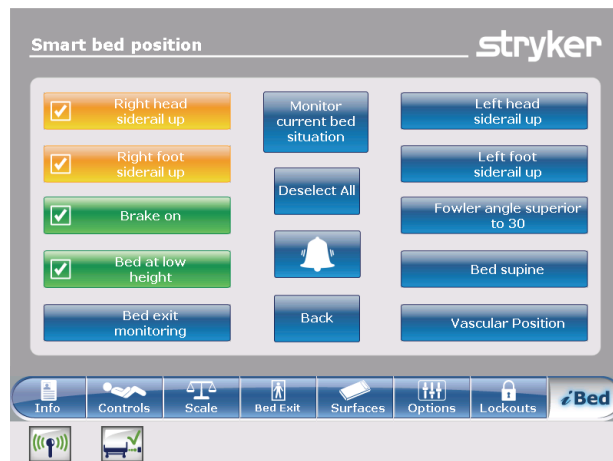

Figure 68: *i*Bed Awareness compromised
If the parameter conditions selected for *i*Bed Awareness are compromised, the LED light bars on the outside siderails and footboard flash amber, a sound alarm is triggered, the compromised parameter condition is highlighted amber (Figure 68 on page 82), and the **Event Manager** screen appears (Figure 69 on page 83).
To return to the *i*Bed screen, tap **Back** (Figure 68 on page 82).
**Note:** If you tap a time interval, the compromised parameter condition stays highlighted amber (Figure 68 on page 82).